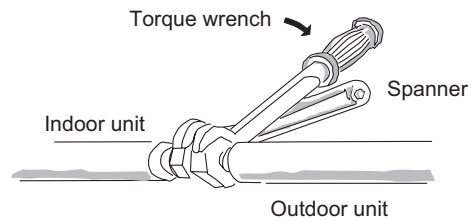

Fig. 1-31
- (2) Tightly connect the indoor-side refrigerant tubing extended from the wall with the outdoor-side tubing.
- (3) To fasten the flare nuts, apply specified torque.
- When removing the flare nuts from the tubing connections, or when tightening them after connecting the tubing, be sure to use 2 monkey wrenches or spanners. (Fig. 1-31) If the flare nuts are over-tightened, the flare may be damaged, which could result in refrigerant leakage and cause injury or asphyxiation to room occupants.